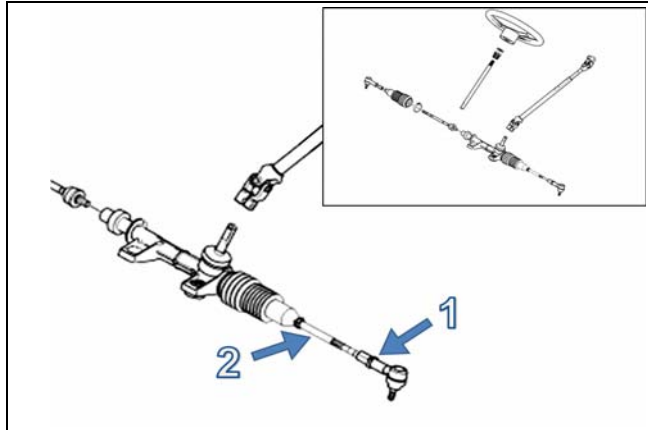

Figure 22
To adjust the UTV's steering system, first, loosen coupling rod nut (1), screw or unscrew the coupling rod (2) an equal number of revolutions on both sides of the vehicle. See Figure 22.